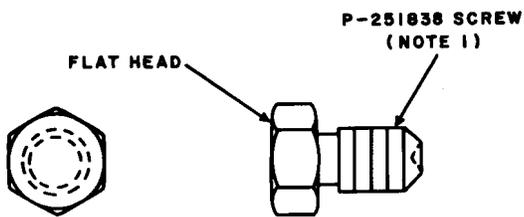
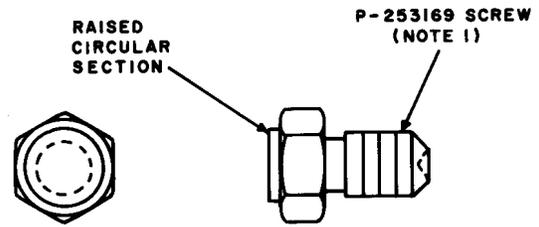

Fig. 6—Normal Post Spring Assembly Mounting Screw Without Raised Circular Section
Fig. 7—Normal Post Spring Assembly Mounting Screw With Raised Circular Section
NOTE (For Fig. 6 and 7)
1. When replacing a missing or damaged screw, a fillister head screw, or a screw of the type shown in Fig. 6, use the P-251838 screw if it can be turned in the associated part without undue pressure. If not, use the P-253169 screw shown in Fig. 7.